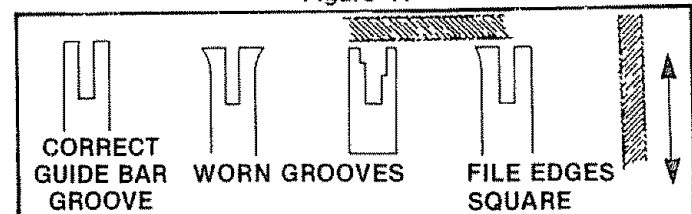

Figure 42
- d. Remove burrs by filing the side edges of the guide bar grooves square with a flat file. Figure 42.
- e. Restore square edges to an uneven rail top by filing with a flat file. Figure 42.